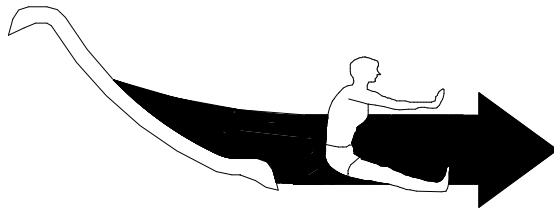

Figure 1
1. **SLIDE FEET FIRST ONLY AS SHOWN IN FIGURE 1. DO NOT SLIDE HEAD FIRST**
Slide users must use the sitting slide position, facing forward, feet first as shown in Figure 1.
All drawings in this Slide Owner's Manual (Figures 1 through 5) are for illustration purposes only and are NOT TO SCALE.